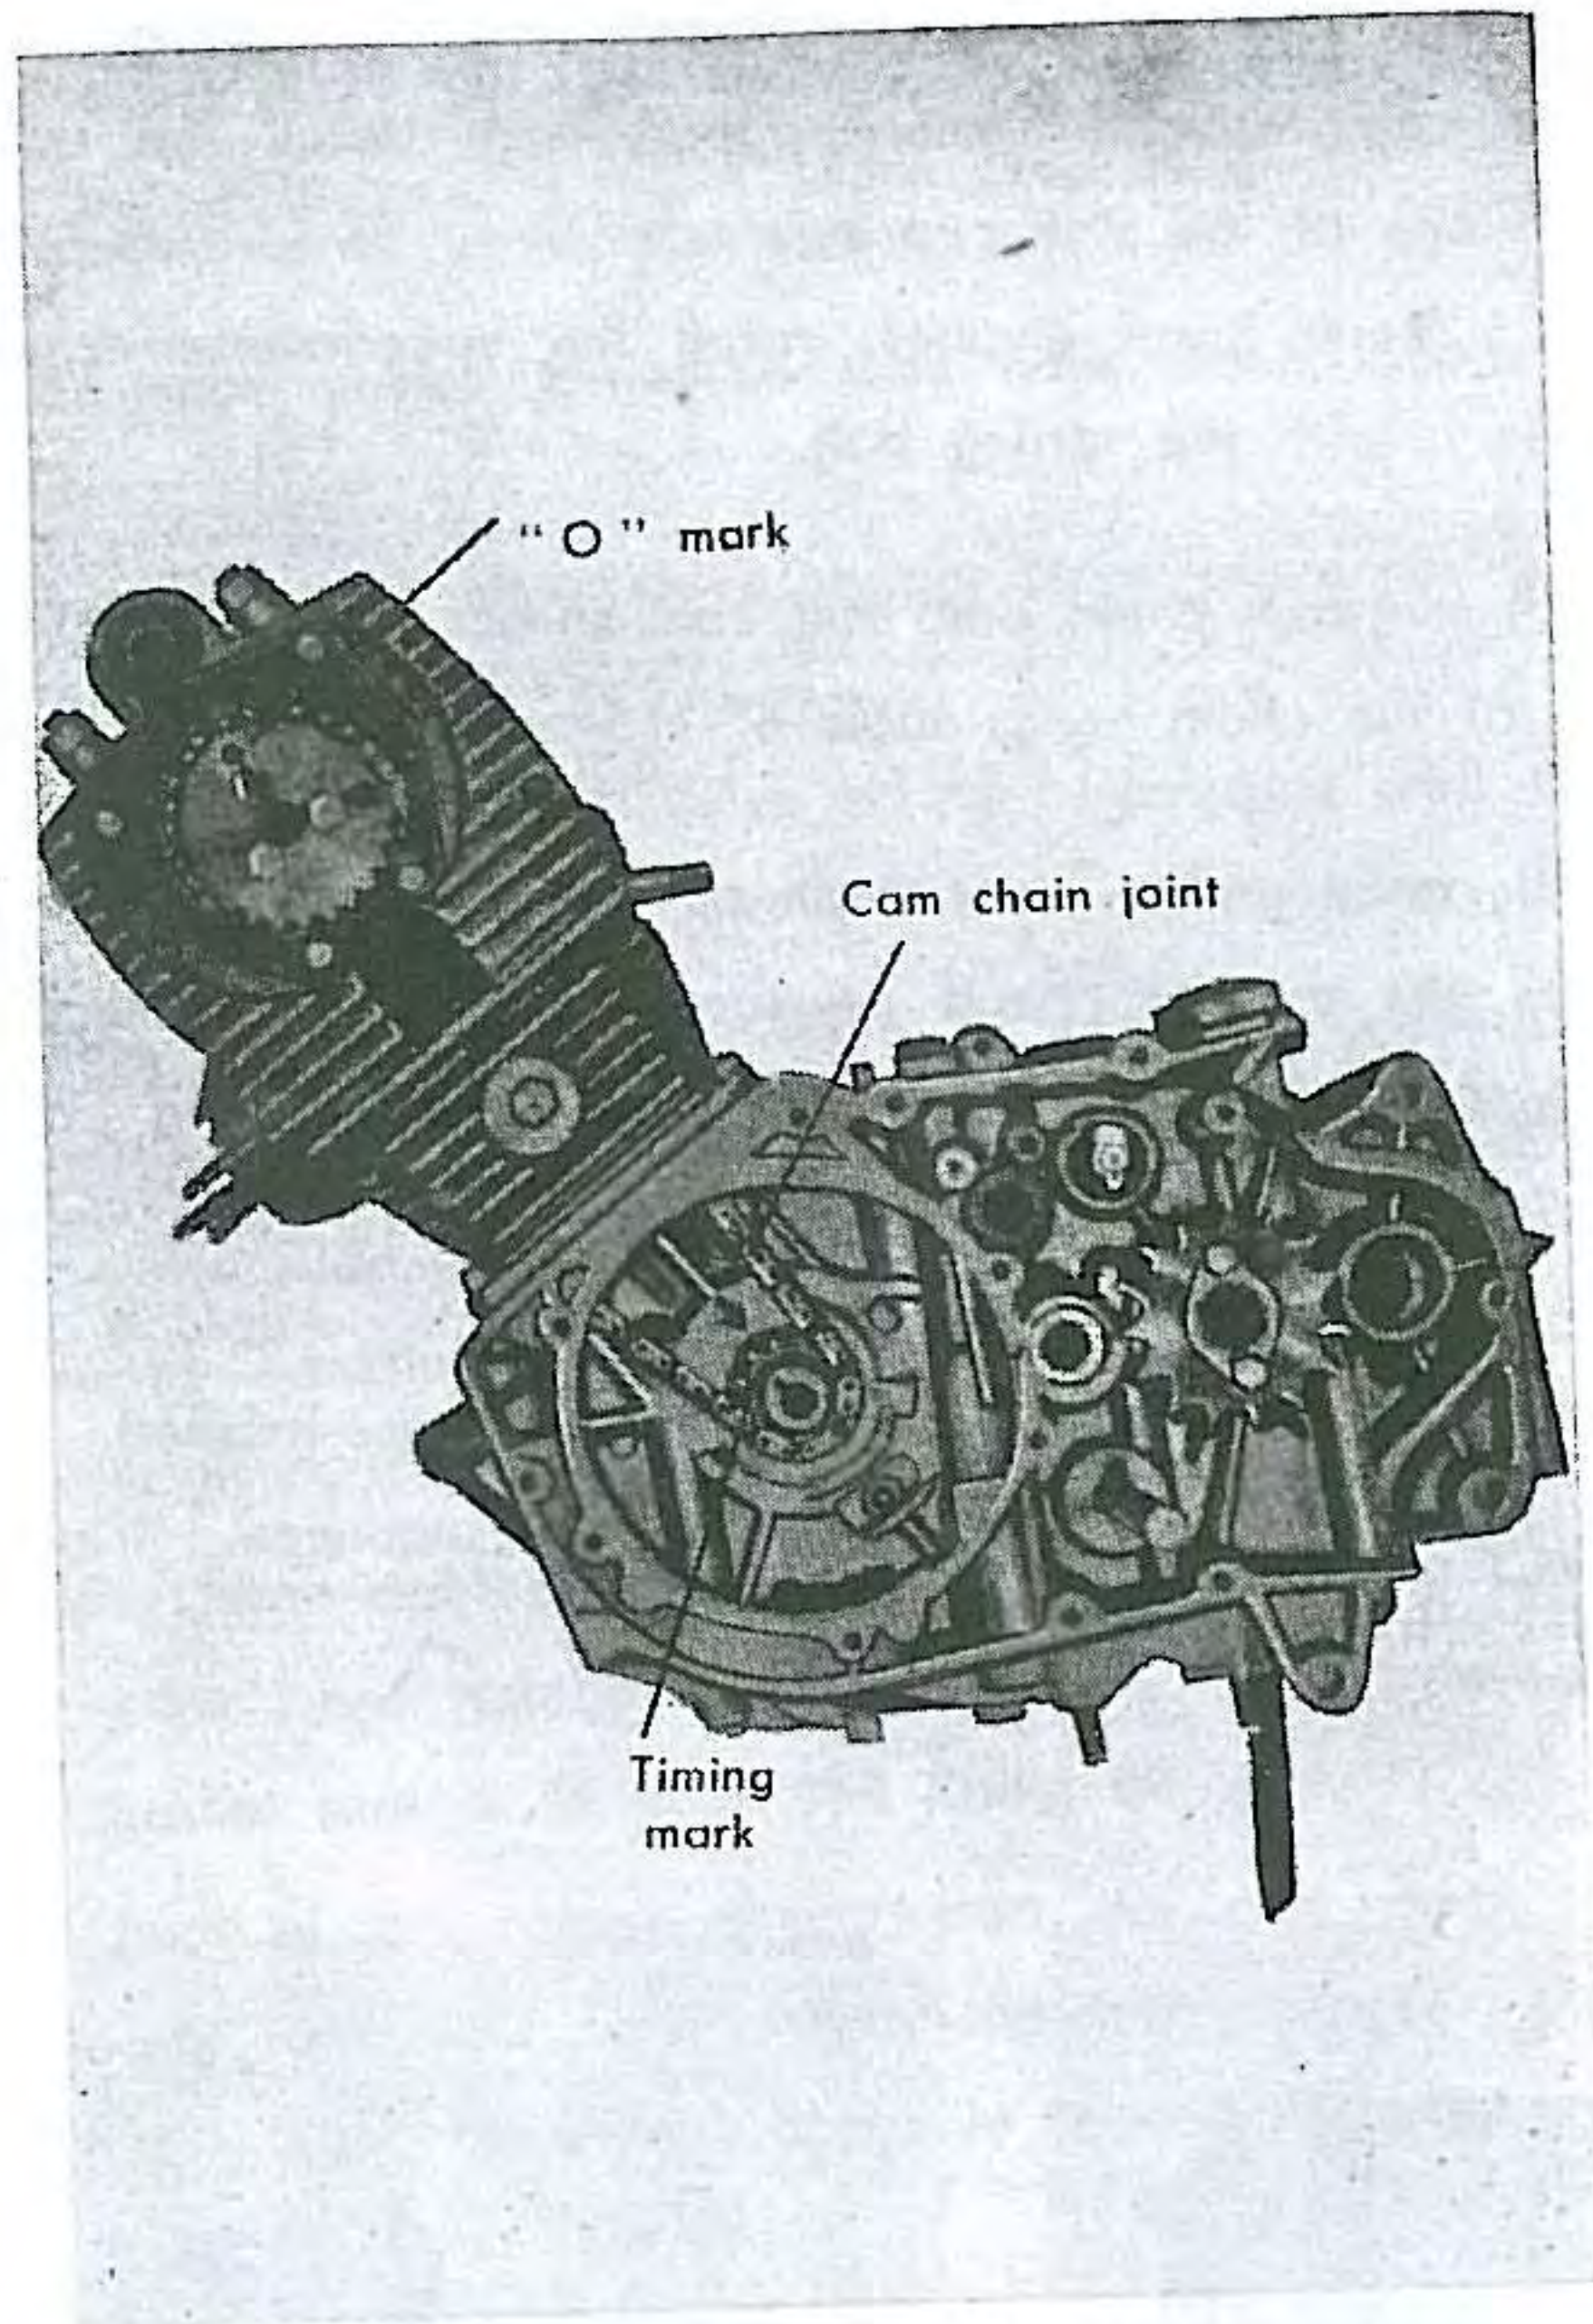

Fig. 47. Setting timing of sprockets
- (7) When connecting the ends of the cam chain, first set the timing mark "O" on the cam sprocket so that it coincides with the notch marked on the cylinder head just above the left side cover packing. Place the mark on the timing sprocket of the crank shaft at the lowest point on the center line between the sprockets. (Fig. 47) The crank shaft spiel is opposite the timing mark.